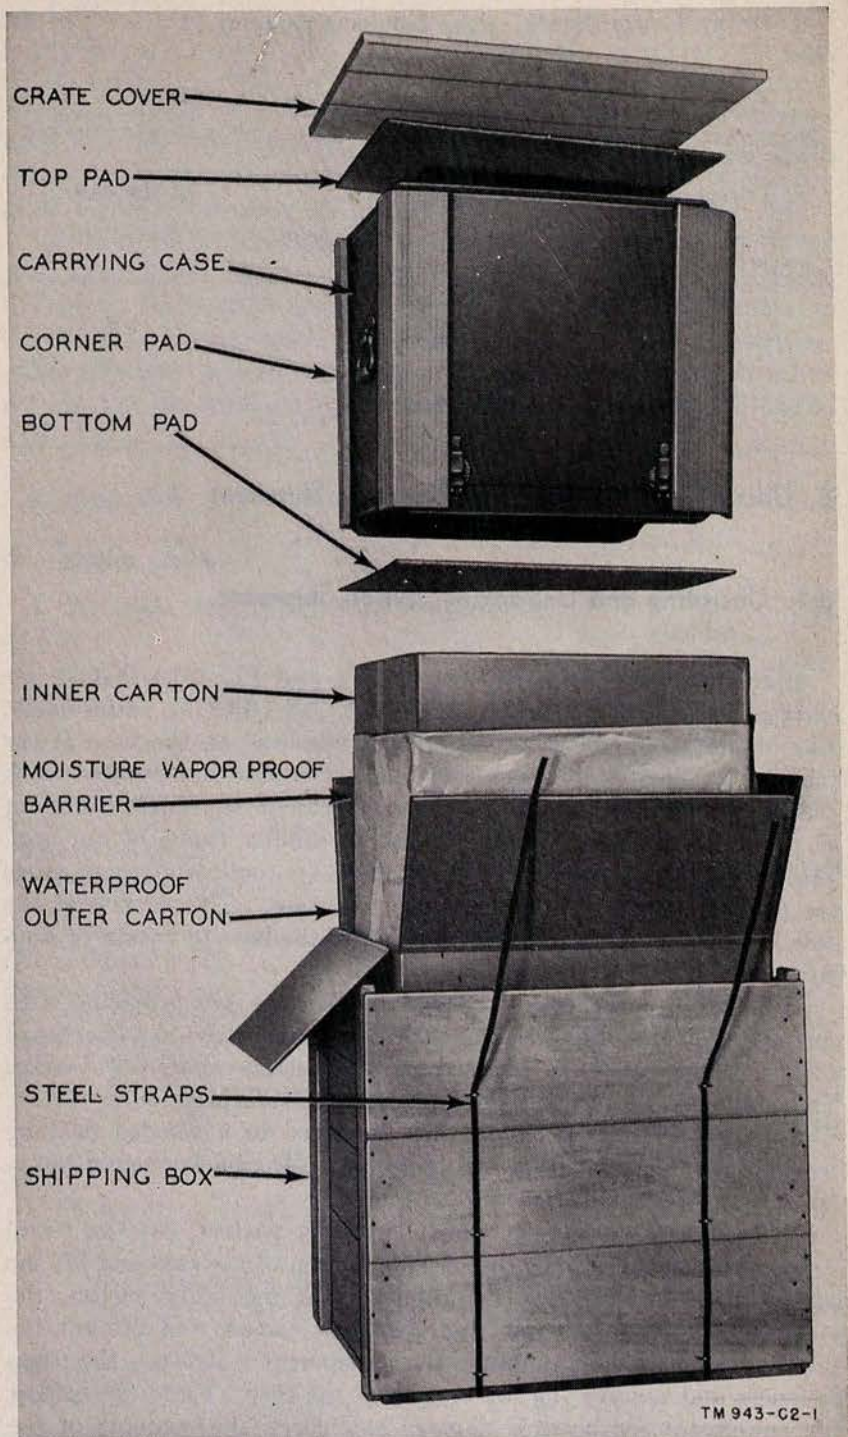

Figure 10.1 (Added). Engine Generator PU-181A/PGC-1, export packing.
b. The top, corners, and bottom of the case are protected with corrugated fiberboard pads, and the case then is placed in a fiberboard carton. This carton is inclosed in a moisture-vaporproof barrier. The complete equipment then is placed in a waterproof outer carton. This entire packing assembly then is placed in a wooden packing case which is bound with metal strapping. The packaging of equipment for export is illustrated in figure 10.1.